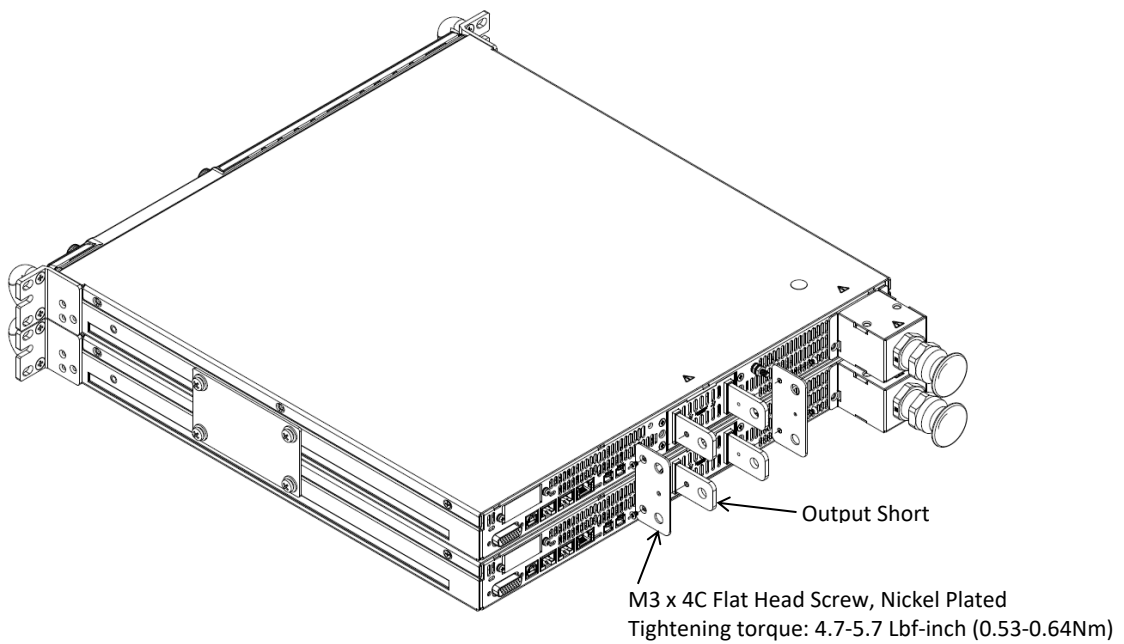

Figure 17: Two 60V-100V Units Output Short Plates Assembly
2. Attach output short plates, one on each pair of terminals, using four flat head screws as illustrated in Figure 17.